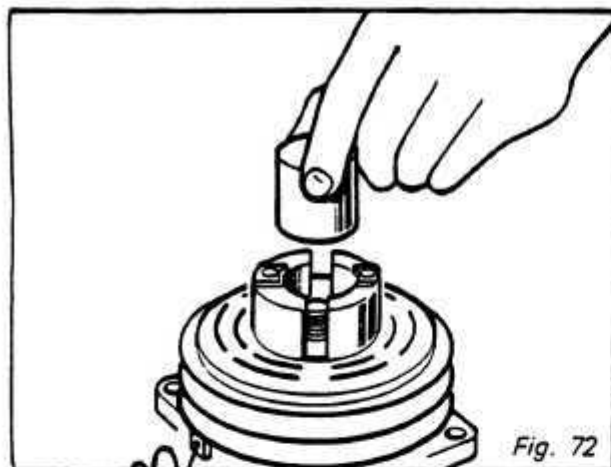

Fig. 72
- Insert the lip of the lip of the jaws into the snap ring groove. (Snap ring removed in Step 4.) Place rotor pulley shaft protector (Puller set) over the exposed shaft. Fig. 72